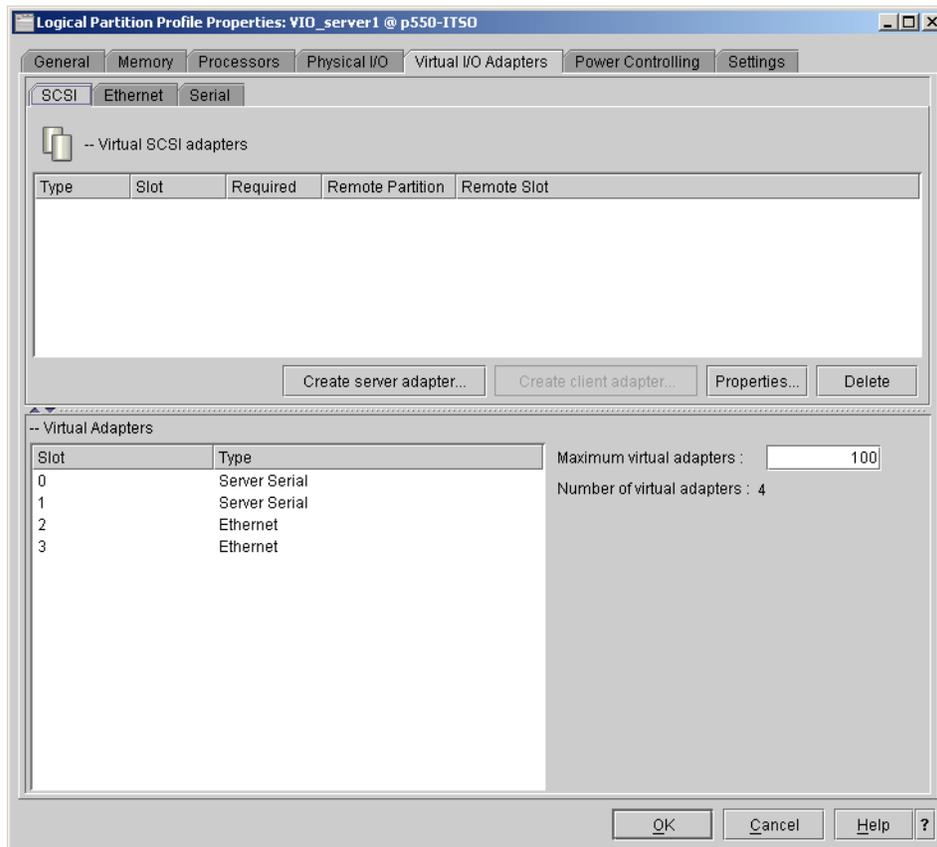

Figure 3-27 SCSI properties tab
2. Click the **Virtual I/O Adapters** tab and then click the **SCSI** tab, as shown in Figure 3-27.